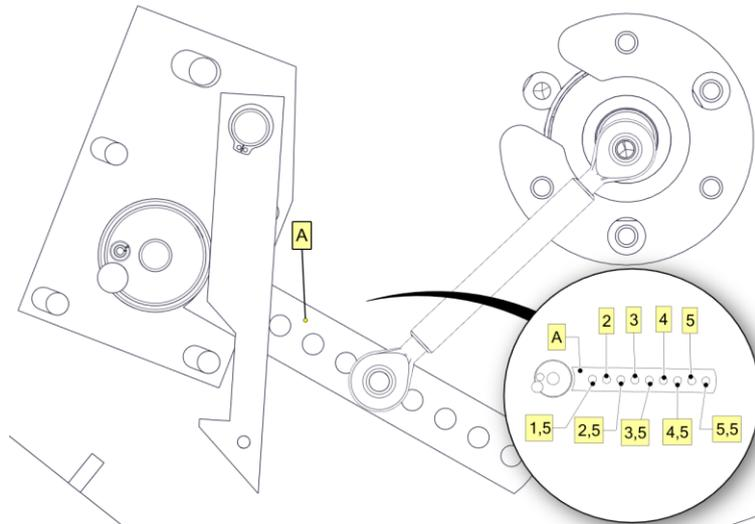

Figure 24. Net binding device adjustment
- Select a hole on the arm (A) that corresponds the number of binding turns that you require (Fig. 24 indicates the number of net binding turns for each hole);